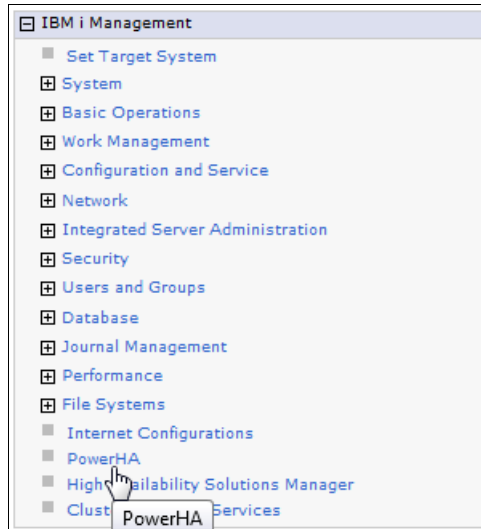

Figure 4-6 Cluster creation from IBM Systems Director Navigator
- From the list of possible tasks that is shown in Figure 4-6, select **PowerHA** to access the PowerHA configuration and management GUI.